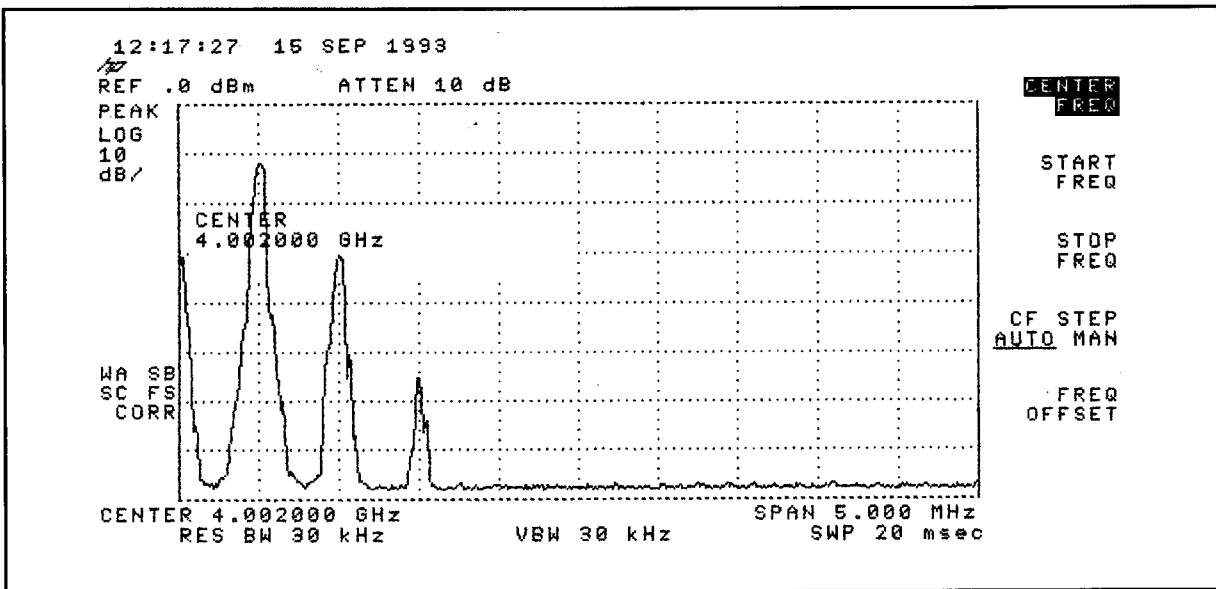

Figure 4-2. Adjustment of 1st Sideband
- Adjust the center frequency in order to position the first sideband left of the carrier, to the left handside of the display. See Figure 4-2